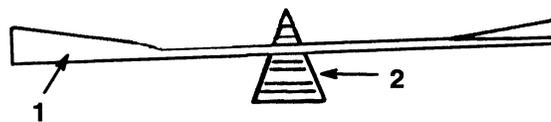

Figure 27
2. Check the balance of the blade by putting it on a blade balancer (Fig. 27). If the blade stays in a horizontal position, the blade is balanced and can be used. If the blade is not balanced, file some metal off the back side of the heavy end of the blade. Repeat this procedure until the blade is balanced.